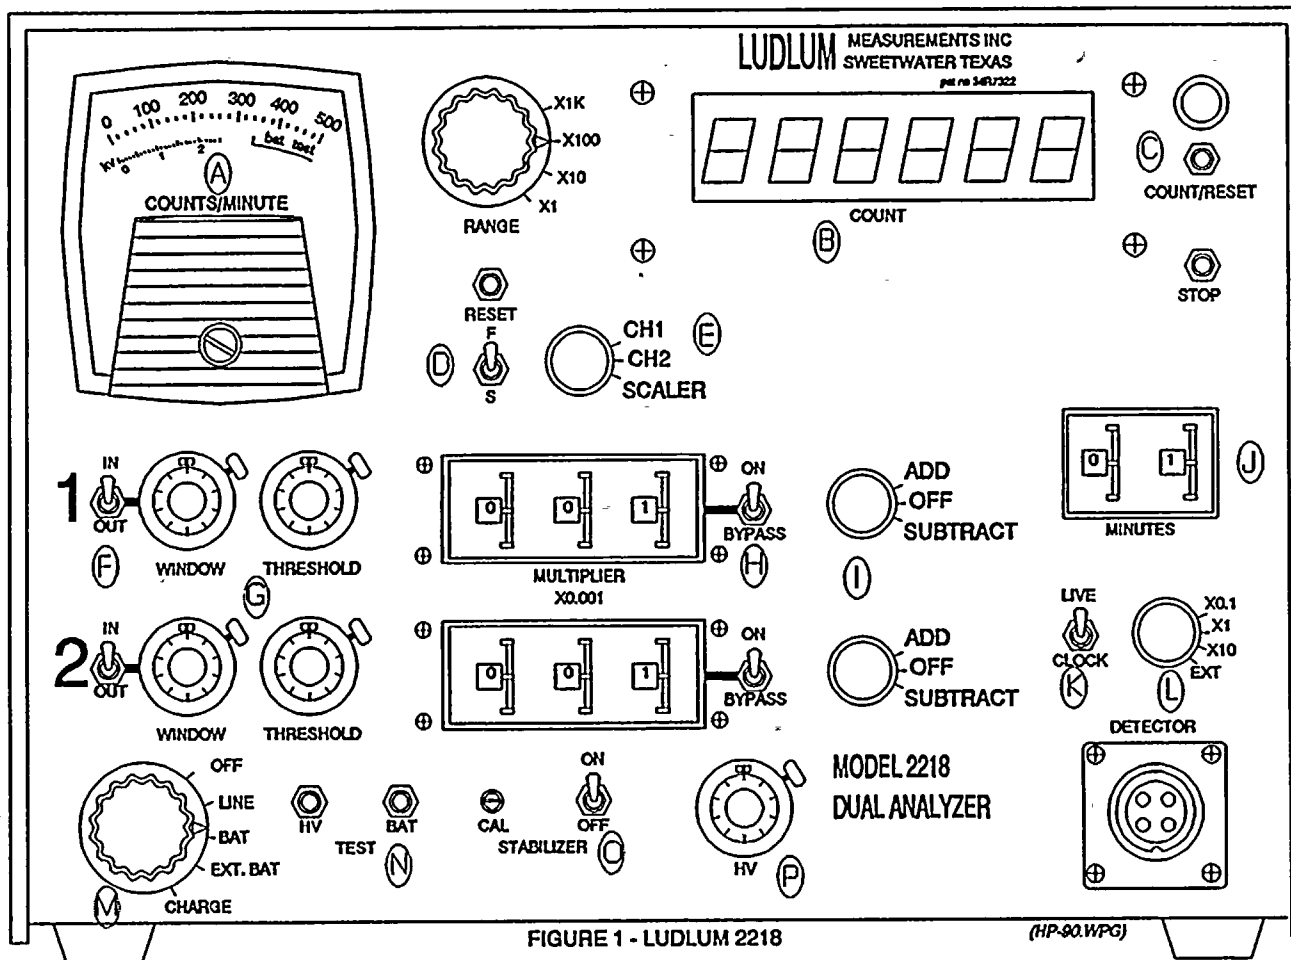

FIGURE 1 - LUDLUM 2218
- A layout of the Ludlum Model 2218 is provided in Figure 1 to this Appendix.